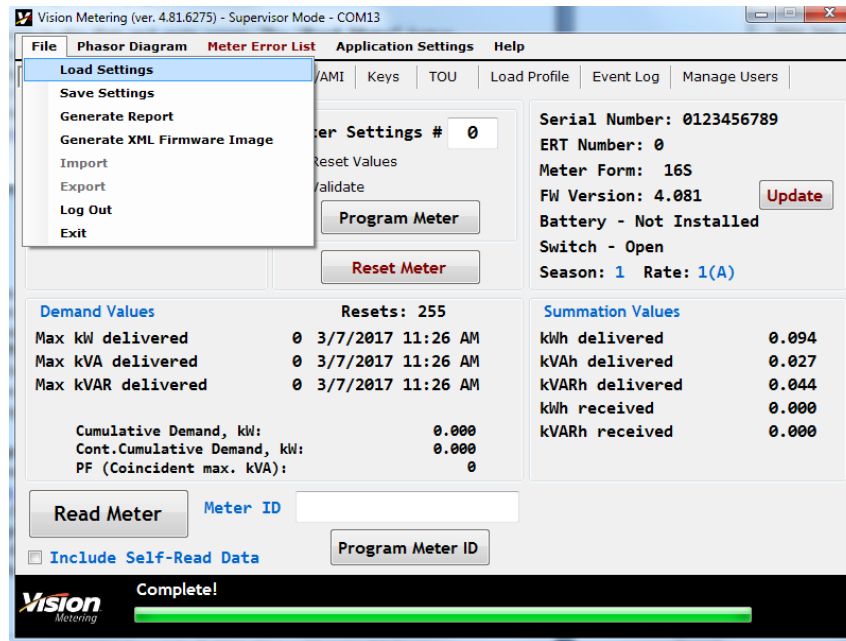

Figure 4
- The **File** tab allows the user to *open, save as, save special, and generate report, import, and export, log out, or exit*. Example on **Figure 4**.